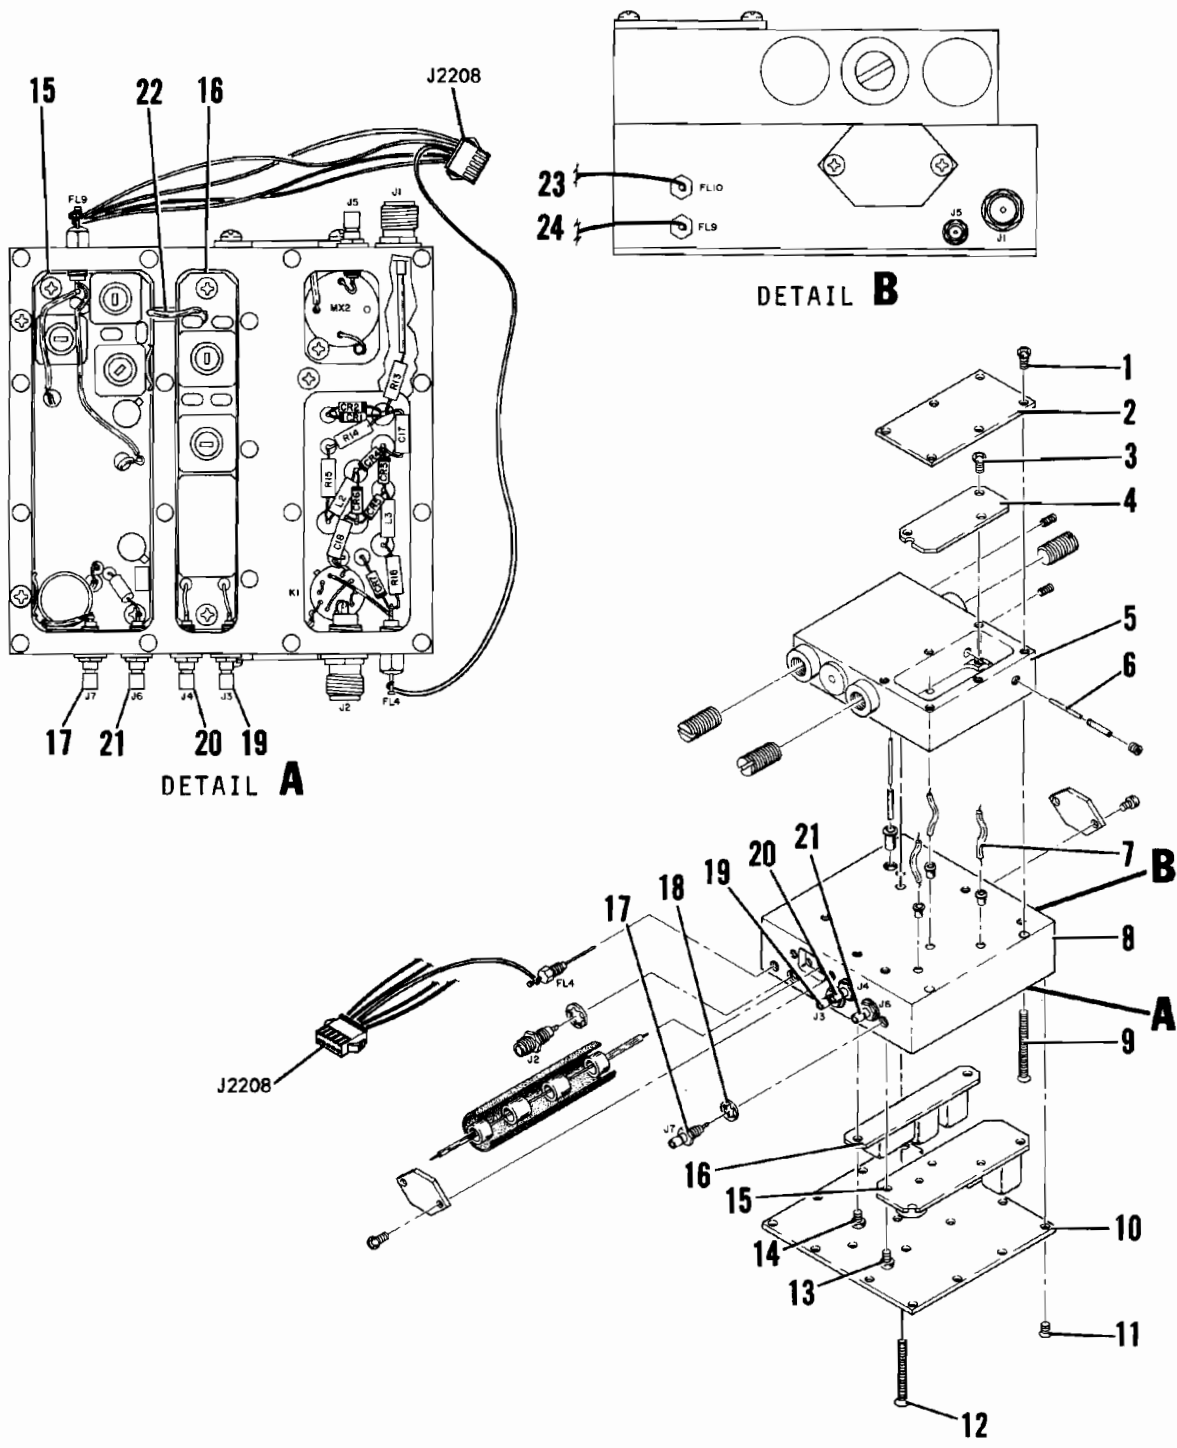

Figure 6-5 IF Module Assembly
1. Remove Power Supply PC Board (5) (paragraph 6-2-5).
2. Disconnect four flexible coax cables from IF Block (45).
3. Disconnect two semi-rigid coax connectors from IF Block (45).
4. Remove two screws (16) and lock washers (15) attaching IF Block (45) to inner mounting bracket (10).
5. Lift IF Block (45) from chassis (33) and disconnect connector J2208.
B. Disassembly (Figure 6-5)
1. Remove six screws (1) attaching cover (2) to enclosure block (5).
2. Remove 1300 MHz Amplifier PC Board (4).
- a. Unsolder diodes and capacitor leads from feed-thru (6).
- b. Unsolder three feed-thru leads (7) from PC Board (4).
- c. Remove three screws (3) attaching PC board (4) to enclosure block (5).
3. Remove sixteen short screws (11) and one long screw (12) attaching large cover (10) to enclosure block (8).
4. Remove IF Amplifier PC Board (15).
- a. Unsolder and remove two feed-thru filters (Detail "B", Items 23, 24) and two coax jacks (17, 21) and lock washers (18).
- b. Unsolder three leads (7) which feed through enclosure blocks (6, 8) from PC Board (15) to PC Board (4).
- c. Unsolder jumper (22) from PC Board (Detail "A", Item 15).